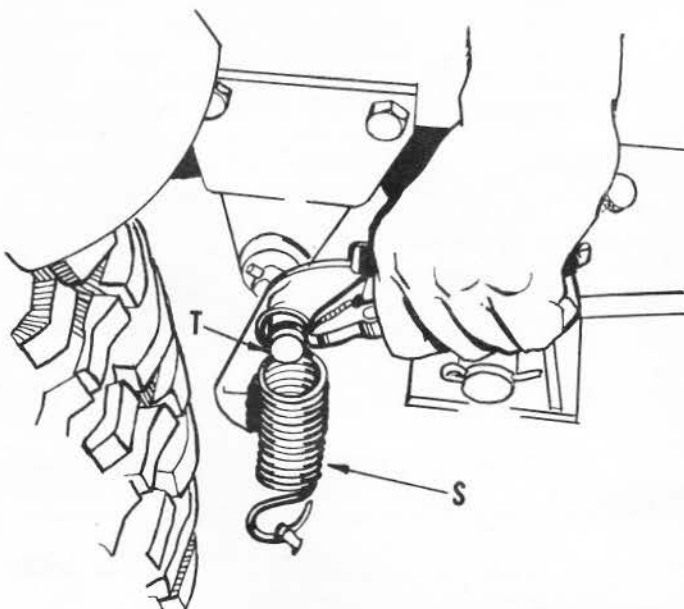

FIG. 7
8. Raise Mower to extreme "up" position with lift lever (F, Fig. 5), and hook springs (S), to pins (T), on lift arms as shown in Fig. 7.